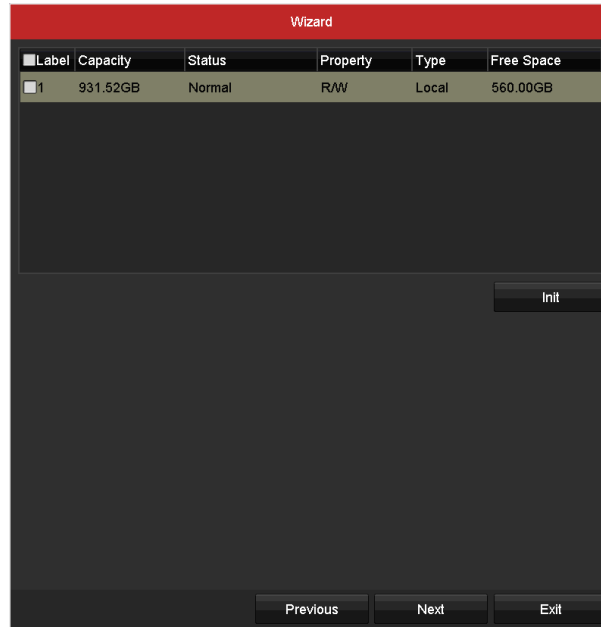

Figure 2-14 HDD Management
Step 8 Click **Next** button after configuring the advanced network parameters, which will take you to the **HDD Management** interface as shown in Figure 2.14.